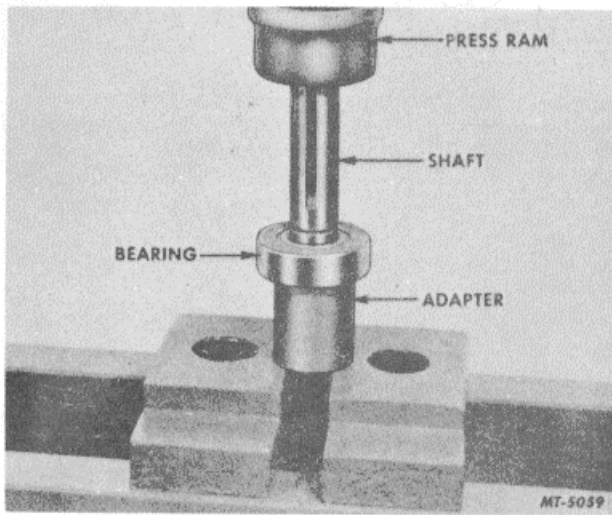

Fig. 14
10. Support the bearing inner race and press the shaft out of the bearing, Fig. 14.